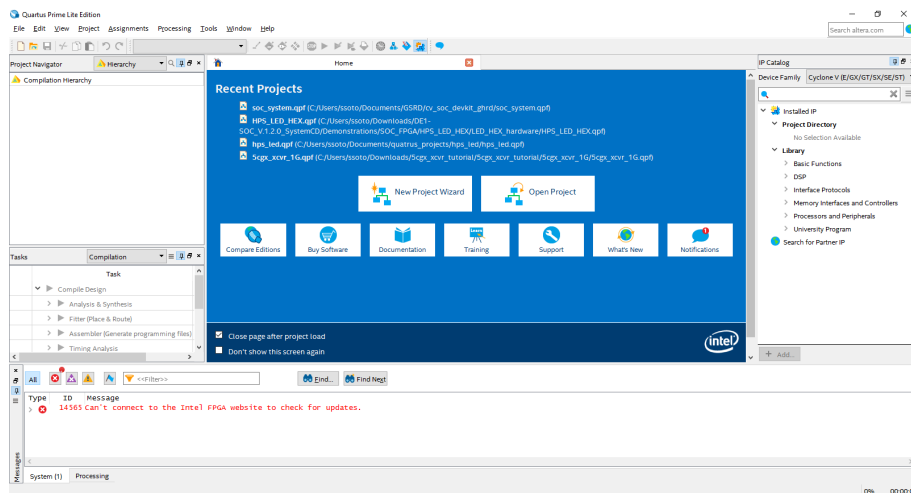

Figure 2: Quartus Prime main window
- ☐ Open the tools by double clicking the Quartus Prime icon:  . You should now see something similar to Figure 2.